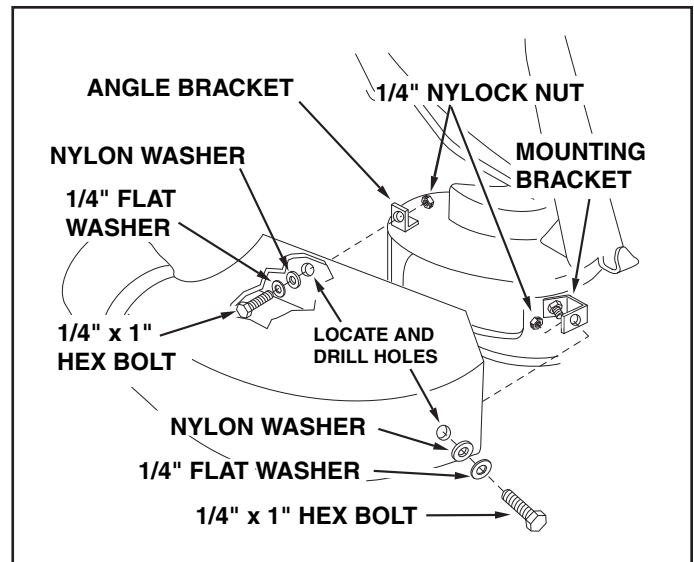

FIGURE 35
14. Fasten the angle bracket and the mounting bracket to the mower deck as shown in figure 35. Use two 5/16" x 1" carriage bolts, 5/16" flat washers and 5/16" nylock nuts. The bolt heads go on inside of mower deck.
15. Drill two 5/16" diameter holes in the deck adapter that will align with the holes in the angle bracket and the mounting bracket. Assemble the deck adapter to both brackets using two 1/4" x 1" hex bolts, 1/4" flat washers, nylon washers and 1/4" nylock nuts. See figure 35.